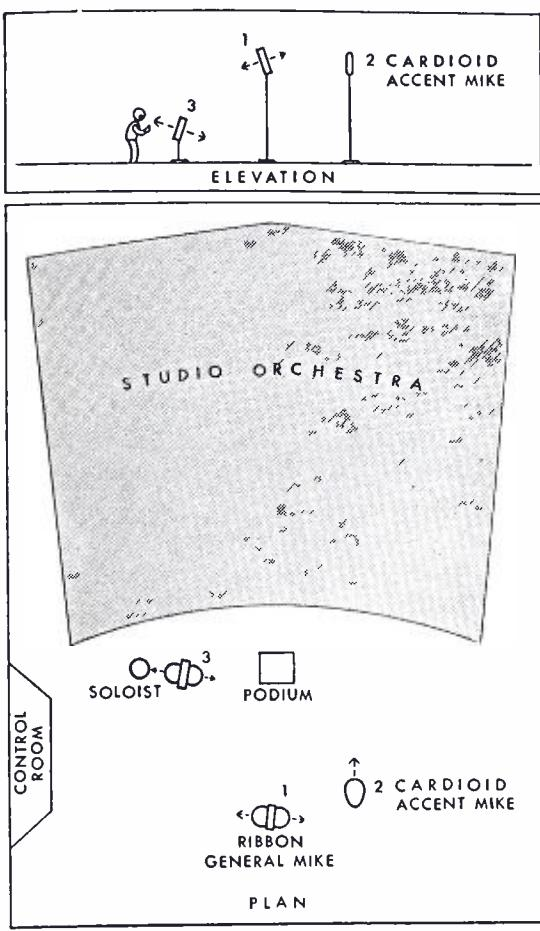

Figure 7—Plan and elevation of overcrowded studio.
(1) Place a bidirectional microphone, such as "1", Figure 7, with its insensitive direction pointing toward the orchestra. In practice this microphone will act as if G_p (see Equations 1 and 2) had a value of $1/4$ to $1/3$.
(2) Place the necessary accentuation microphones in the standard manner except that bidirectional microphones must not be placed too close to the studio wall. Where the crowding is extreme the use of cardioid microphones for accentuation purposes is preferred.
(3) Use the minimum contribution from the accentuation microphones, necessary to obtain the desired effect. Too much accentuation does more damage under crowded than under normal conditions, and can easily push the pick-up into the region below the useful liveness range. You then obtain "absence" instead of "presence".